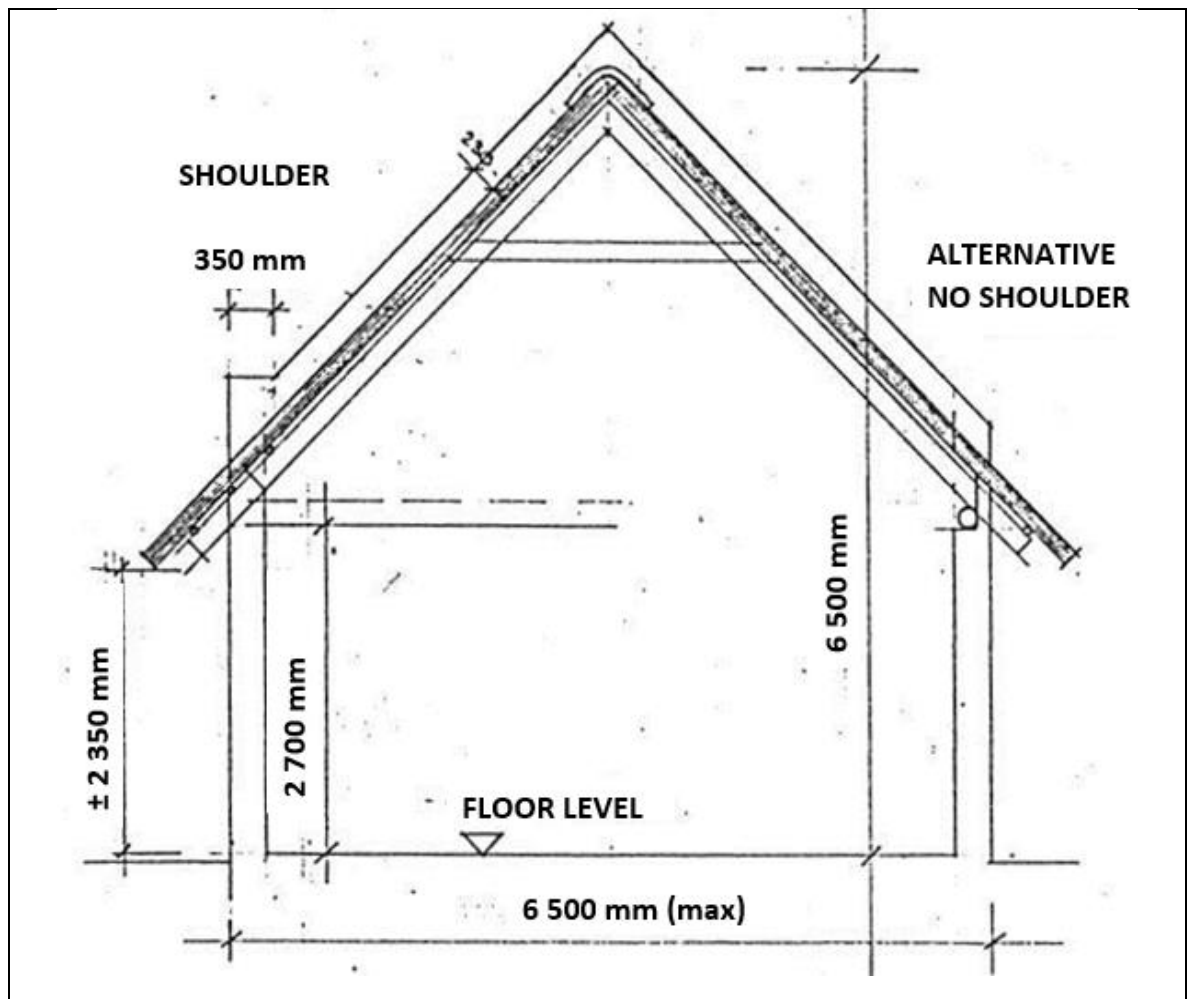

Figure 2: Gables
- 6.1.2 Simple gables are permitted provided that the gables and parapets comply with the dimensions and details shown in Figure 2.
- 6.10.3 The span of roof trusses is limited to 6.5 m over walls. The maximum roof height is 6.5 m as indicated in Figure 2. The height to the underside of the wall plate / tie beams shall not exceed 2.7 m measured from FFL.